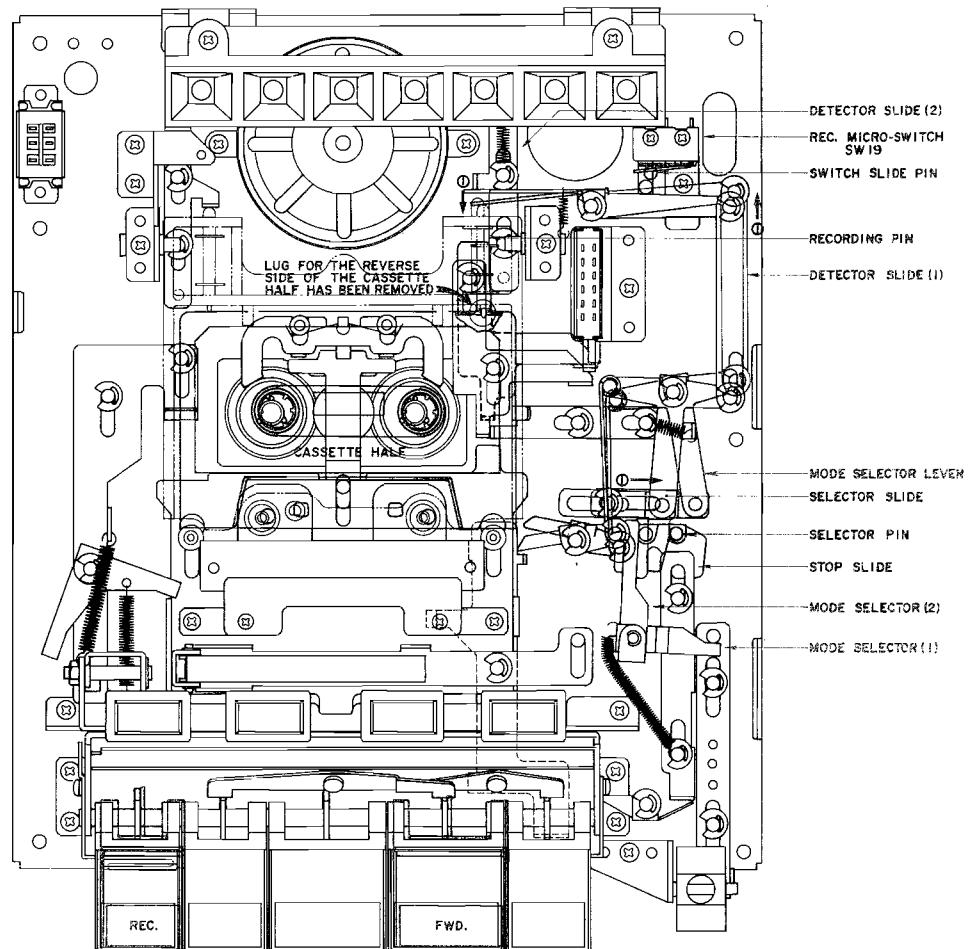

Fig. 36 Key Release From FWD REC Mode
- 6) Detector Mechanism for prevention of re-recording (Refer to Fig. 36).